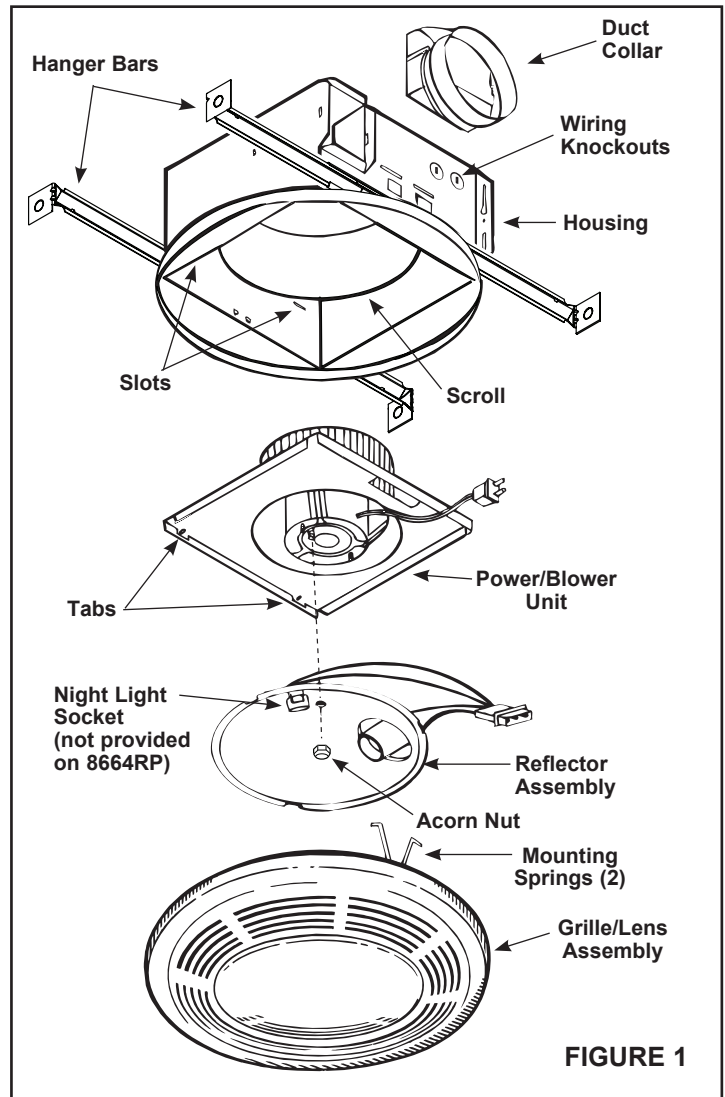

FIGURE 1
- Refer to Figure 1. Remove power unit/blower assembly from housing.
1. Refer to Figure 1. Place duct collar over flanges at discharge opening of fan. Secure collar by snapping tabs into slots in flanges.
1. Refer to Figure 1. Place power/blower unit into housing so that mounting plate's tabs insert into slots in housing.